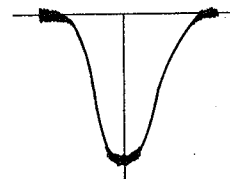
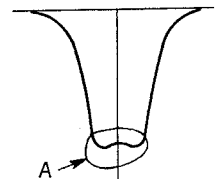

Fig. 9
Fig. 10
- In item 1, set the capacitance of the variable capacitor to minimum and adjust red and blue cores of T151 so that the waveform is as shown in Fig. 9. As T151 contains a 455kHz ceramic filter, sometimes the center of the marker will not correspond to that of the waveform. In this case, neglect the marker. After adjusting as above, increase the output level of the sweep generator and adjust T151 again so that the top of the waveform A (indicated in Fig. 10) will be flat and wide.
- In items 2 and 3, at the time of first adjustment, set input power at 74dB and adjust obtaining the minimum necessary input power (50dB).